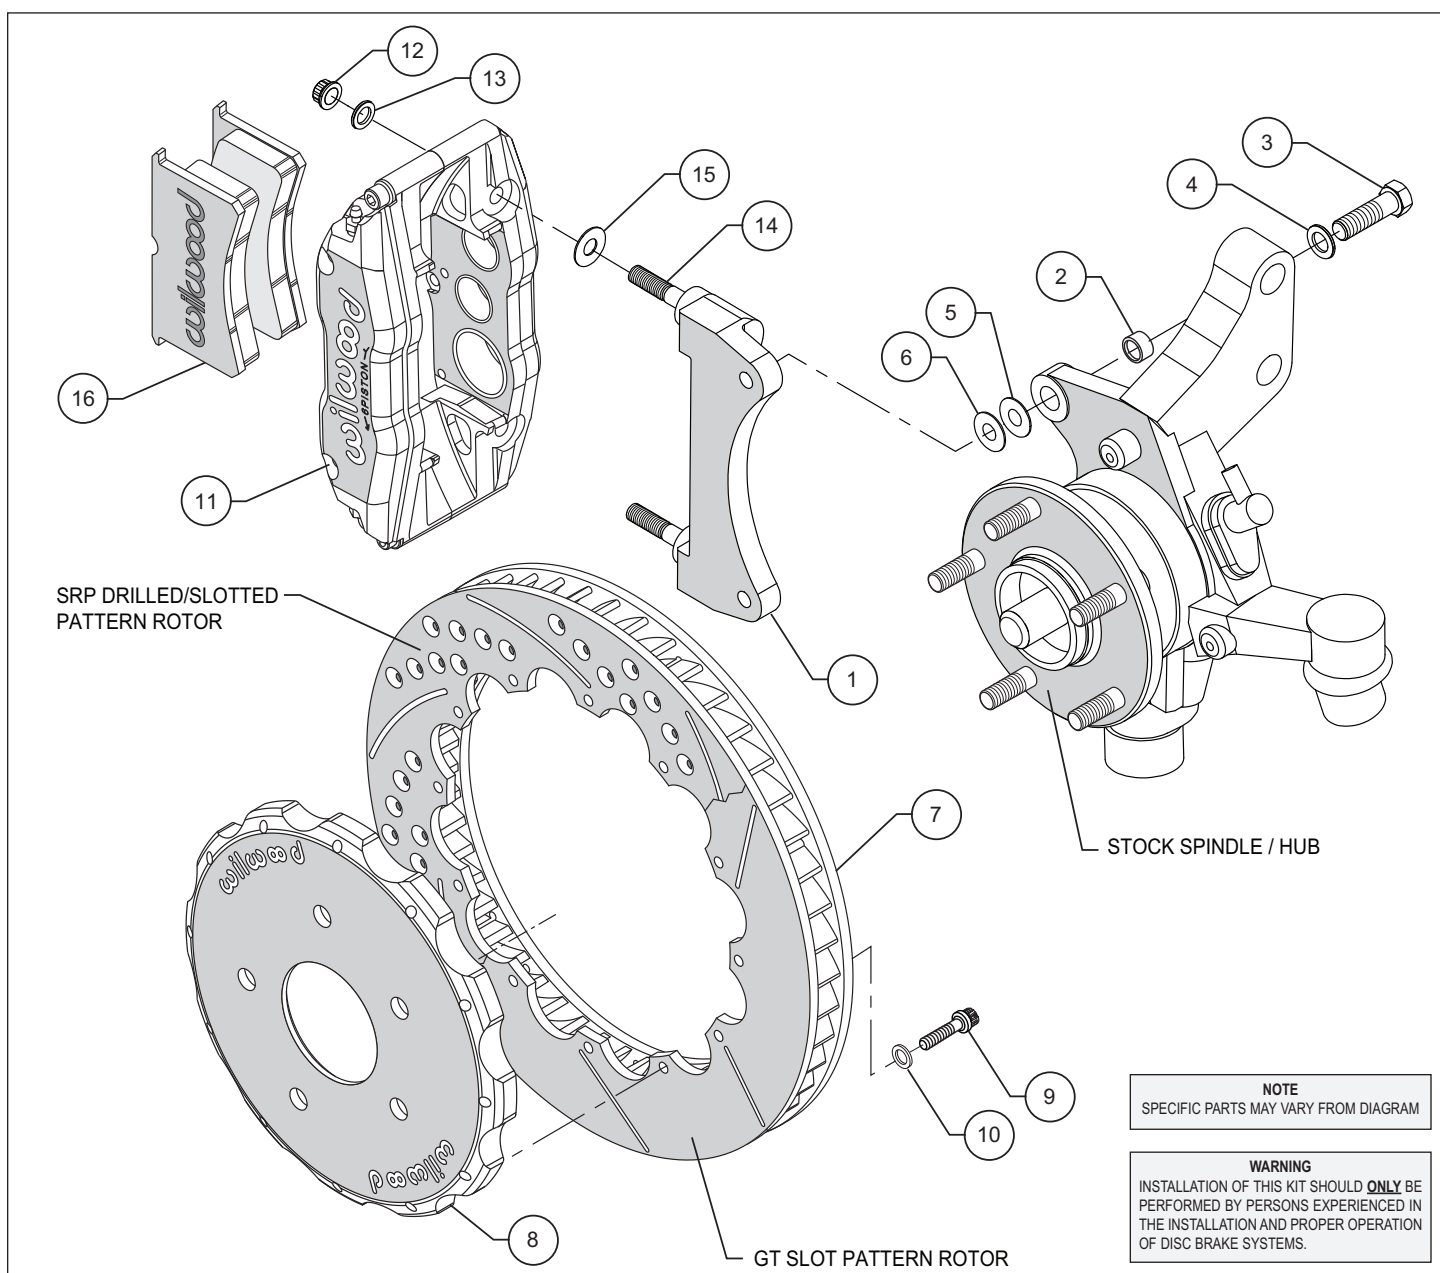

Figure 1. Typical Installation Configuration
•The caliper mounting bracket assembly (1) should be installed first with clean, dry threads on the mounting bolts. Install the bracket on the outboard side of the spindle by sliding bolt (3) through washer (4), and through sleeve (2) which will be inserted into the spindle "ears" from the back side of spindle. Place two shim washers (6) between the bracket (1) and the spindle (see Figure 1). The bracket must tighten squarely against the side of the spindle body. Inspect for interference from casting irregularities, machining ridges, burrs, etc. Use two thin shims (6) between the bracket (1) and spindle during initial trial fitting.